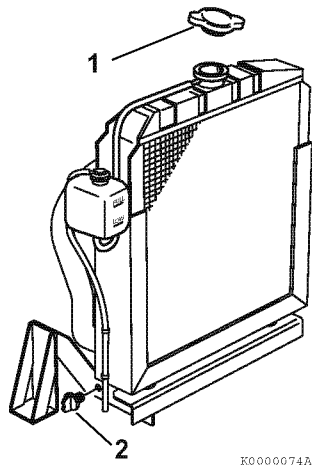

Figure 5-15
2. Remove the radiator cap (**Figure 5-15, (1)**).
3. Remove the drain plug or open the drain cock (Figure 5-15, (2)) at the lower portion of the radiator and drain the engine coolant.